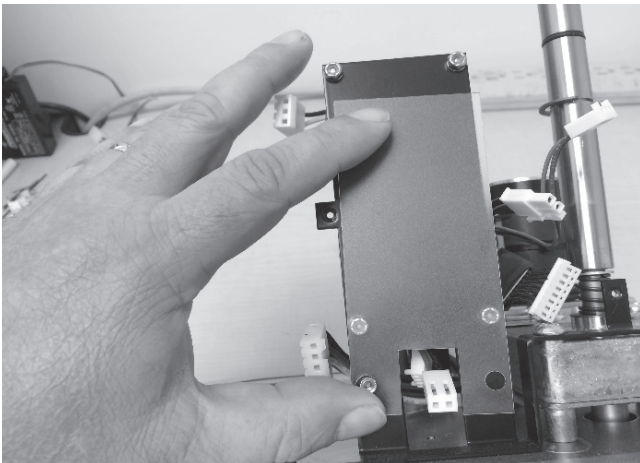

Figure 31.
- 4.33 Adjust/re-install the board insulator on the bracket as shown in Figure 31.